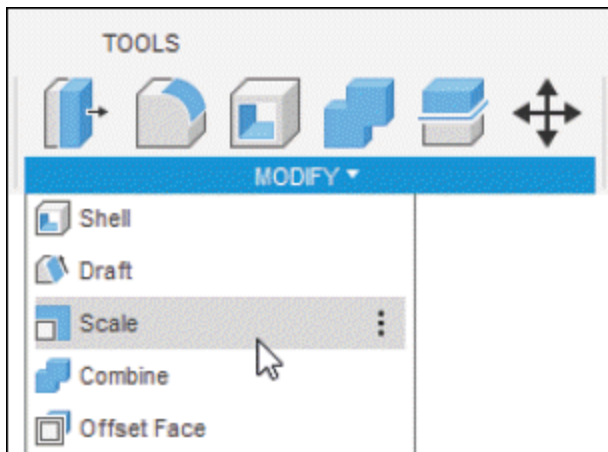
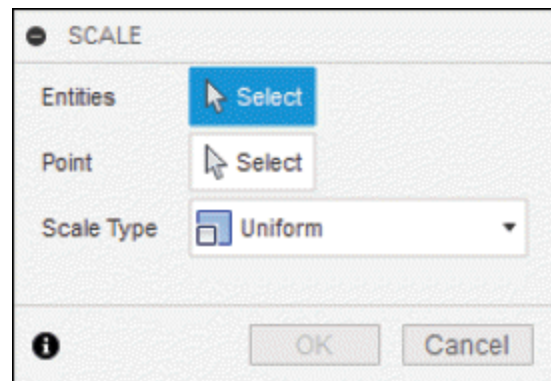

Figure-33. Scale tool
Figure-34. SCALE dialog box
- Select **Scale** tool of **MODIFY** drop-down from **Toolbar**; refer to Figure-33. The **SCALE** dialog box will be displayed; refer to Figure-34.